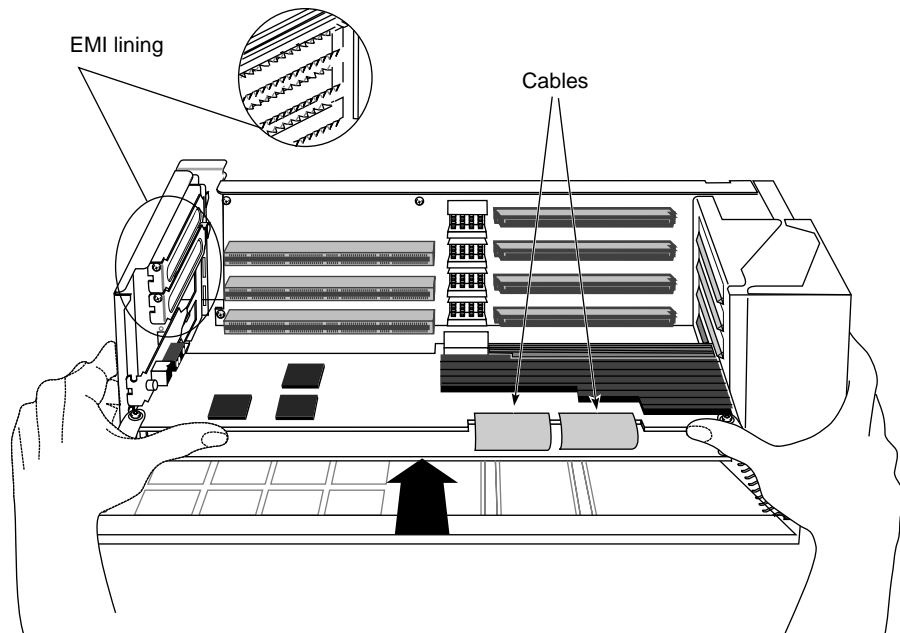

Figure 5-46 Replacing the High IMPACT Graphics Board Set
- Grasp the chassis with your fingers and push the board set into place with your thumbs. See Figure 5-46